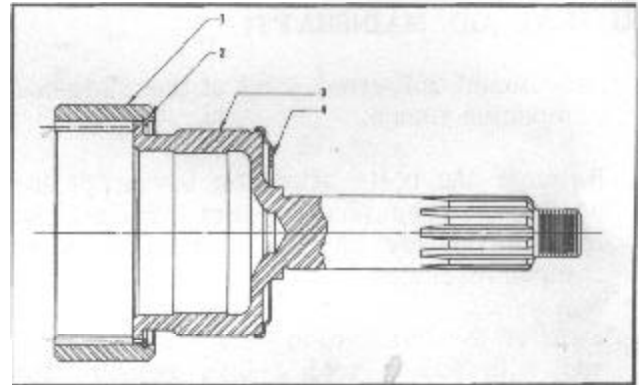

FIGURE 13
3. Removing lock ring (2), Figure 13, will permit the removal of the ring gear (1) from the overdrive mainshaft (3), the oil collector ring (4) is spun securely to the mainshaft to form an oil tight seal.
3. Install the ring gear (1), Figure 13 on the overdrive mainshaft (3) and lock it in place with the large snap ring (2).